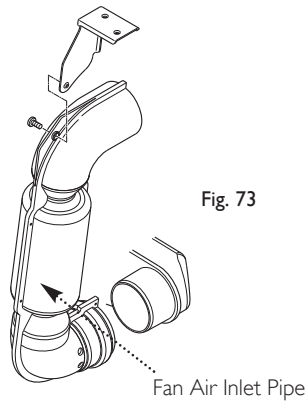

Fig. 73
8. Undo the screw securing the fan air inlet pipe to the bracket on the boiler top panel. Remove the pipe (Fig. 73).